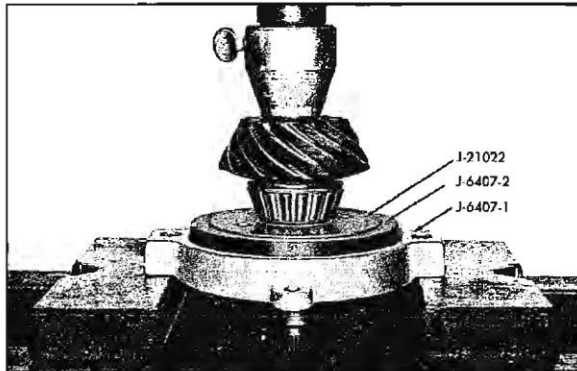

Fig. 4-39 Installing Rear Pinion Bearing
11. Slide pinion shim onto pinion shaft and install rear pinion bearing on pinion using installer J-21022 and holder J-6407 in a press (Fig. 4-39).